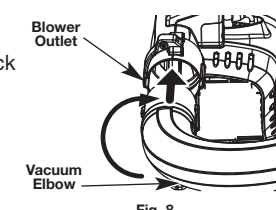

Fig. 8
1. While facing the front of the unit, hold the keyed end of the vacuum elbow in the left hand and the flared end in the right hand. Align the lock tabs on the keyed end with the lock tabs on the blower outlet. (Fig. 8)
2. Insert the vacuum elbow into the blower and turn clockwise until it locks into place. (Fig. 8)